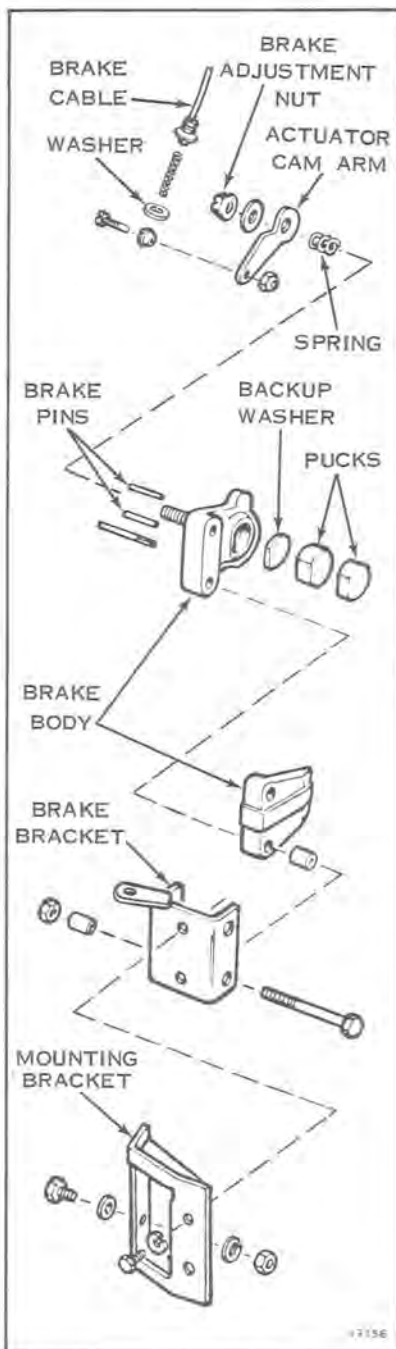

Figure 10-17
- a. Loosen brake adjustment nut. See Figure 10-17.
- a. Disassemble brake assembly as required, noting relative positions of components to assure correct reassembly (see Figure 10-17).